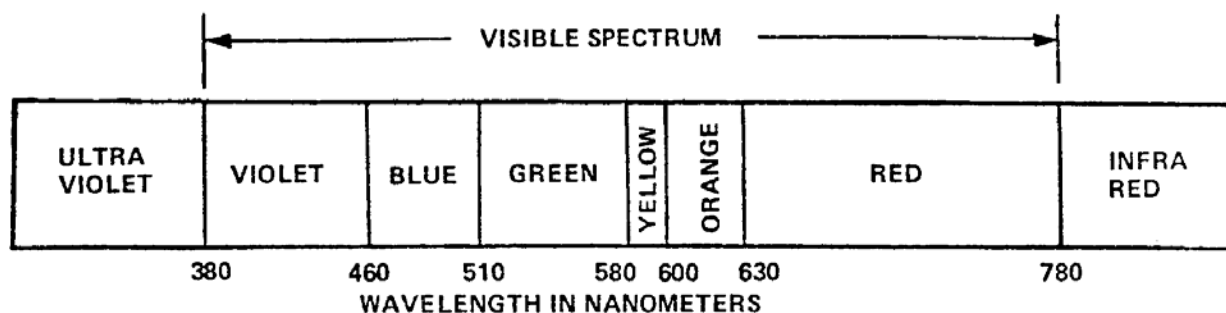
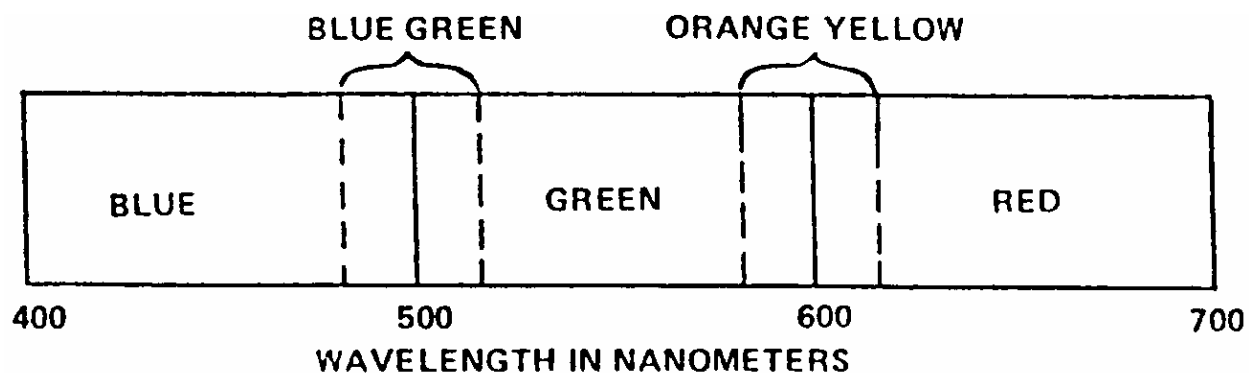

Figure S-7. Visible Light Spectrum
Figure S-8. Portion of Visible Light Used in Color Television
b. Wavelengths in the region of light may be designated in micrometers (1 micrometer = 10⁶ cm). These units are also shown along the bottom of the spectrum in the illustration. Visible light is made up of that portion of the spectrum between 380 and 780 nanometers, Figure S-7. (Formerly the term micron was used for micrometer and millimicron for nanometer). The usable portion of the light spectrum for television has been designated as falling between 400 and 700 nanometers as shown in Figure S-8.